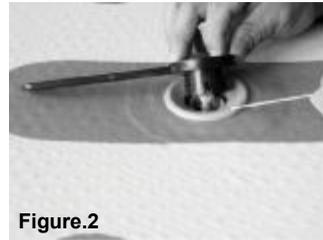

Figure.2
4. Place the long nose pliers into the crown slot around the valve inner chamber, see Figure 2